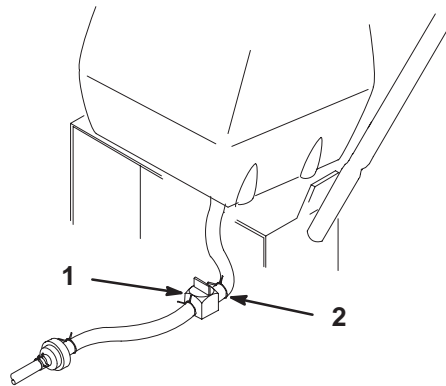

Figure 44
2. Close fuel shut-off valve at fuel tank (Fig. 44).
3. Squeeze the ends of the hose clamp together and slide it up the fuel line away from valve (Fig. 44).
4. Pull the fuel line off the valve (Fig. 44). Open fuel shut-off valve and allow gasoline to drain into a gas can or drain pan.
3. Close fuel shut-off valve at fuel tank (Fig. 44).
7. Open fuel shut-off valve at fuel tank (Fig. 44).
8. Check for fuel leaks and repair if needed (Fig. 44).